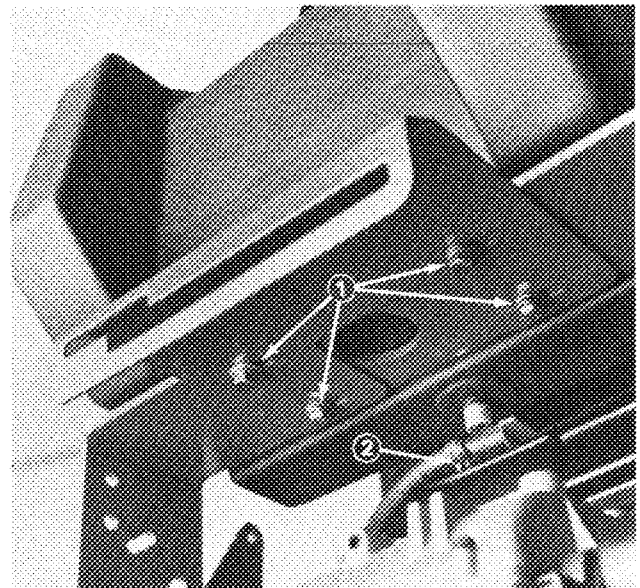

Figure 2
3. Secure fuel line to tank fitting with hose clamp (Fig. 2).
3. Move shift lever to reverse and 4th gear. Control panel mounting holes are slotted to enable it to be moved from side to side (Fig. 2). Position control panel as needed to achieve full shift range. Tighten mounting screws to a maximum of 90 in.-lb. **DO NOT OVERTIGHTEN.**